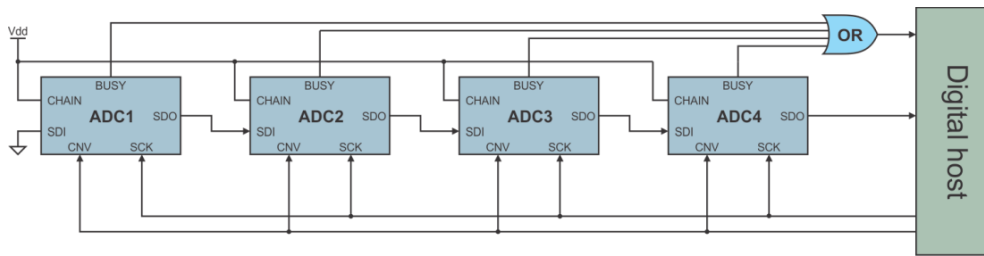

Figure 12: Chain-mode block diagram
- In *chain-mode* (see **Figure 12**), the ADCs are daisy-chained, so the output from the ADC1 is passed to the ADC2 and so on. The last ADC, the ADC4, outputs concatenated data from all four ADCs through its SDO4 pin. In this way it is possible to use just one serial data output (SDO4) instead of four.